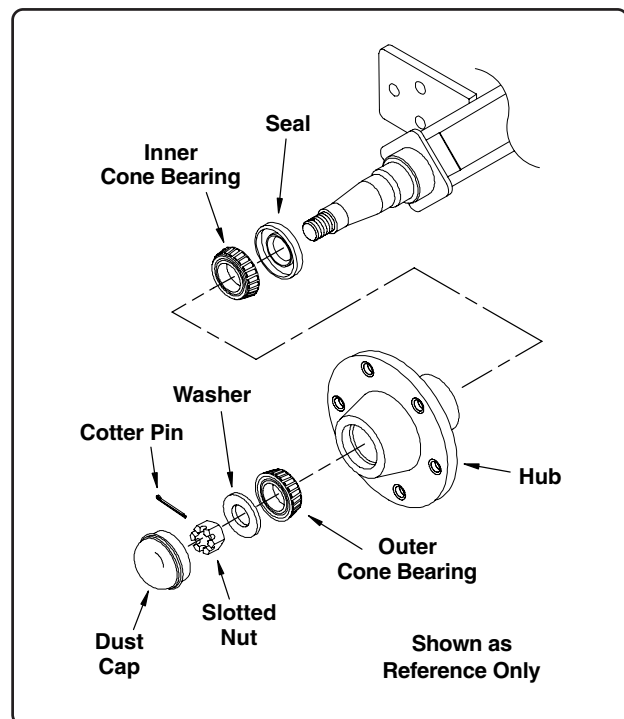

Fig. 9
2. Remove the dust cover by prying around the edges, (See Fig. 9) then remove the cotter pin, slotted nut and flat washer from the end of the axle shaft.